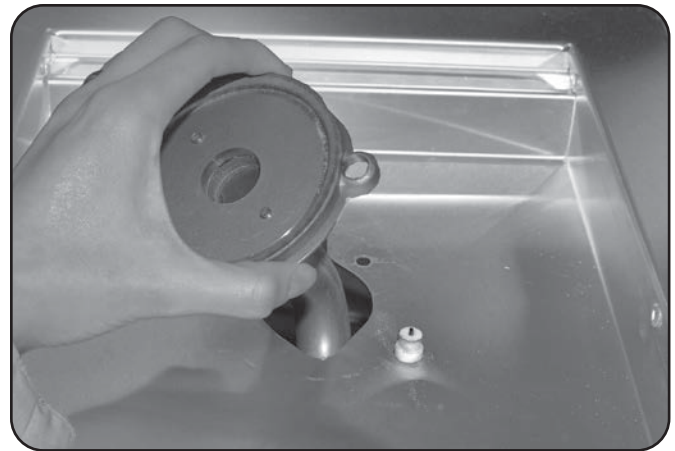
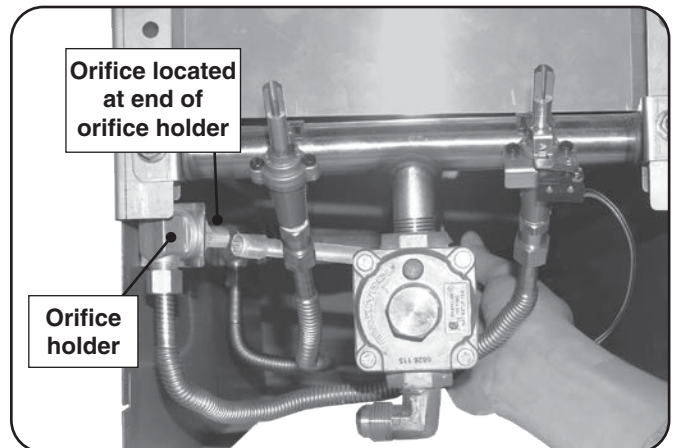

Fig. 44-2 Lift burner
Fig. 44-3 Locate orifice
4. Remove the burner cap and carefully lift the burner up and out, clearing the ceramic electrode (see Fig. 44-2), and pulling the burner tube away from the orifice, located on the end of the orifice holder on the left side of the unit (see Fig. 44-3).
5. Using a $\frac{3}{8}$ " socket, remove orifice from the orifice holder (see Fig. 44-3) and check the number stamped on the orifice face.